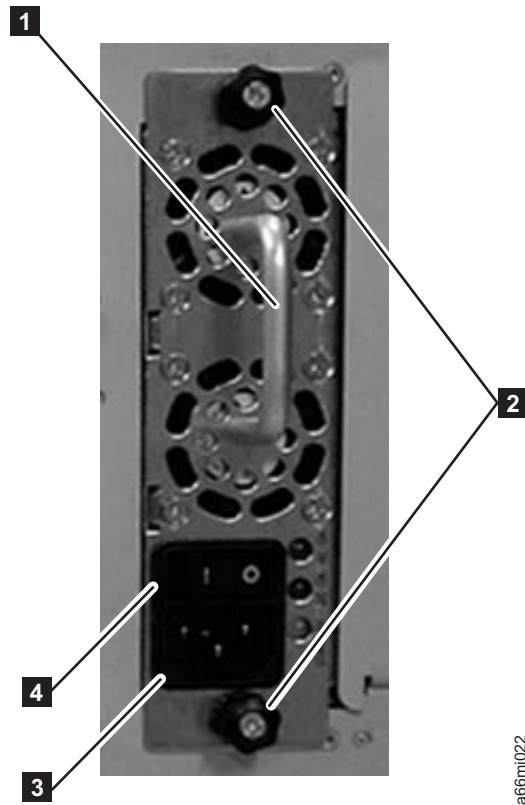

Figure 3-4. Power Supply
1. Loosen the two thumb screws ( **2** in Figure 3-4) on the power supply by turning them counterclockwise.
2. To remove the power supply, grasp the handle ( **1** in Figure 3-4) and slowly pull it toward you, while supporting it from underneath.